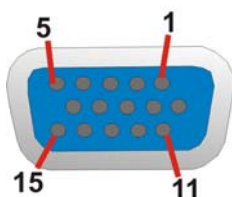

Figure 3-28: VGA Connector
- CN Pinouts:** See **Figure 3-28** and **Table 3-7**